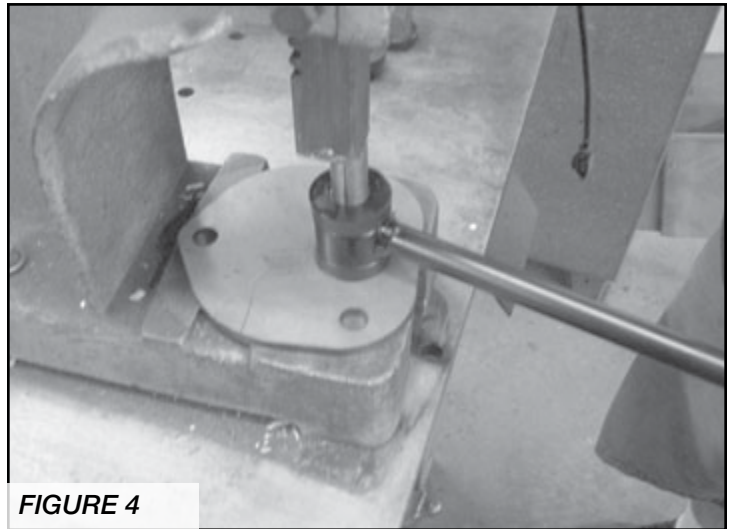

FIGURE 4
4. Locate the one FT30476 sway bar link, four FT1004 bushings, and two FT50089 sleeves. Press the bushings and sleeves into the barrels on the sway bar links. **SEE FIGURE 4**